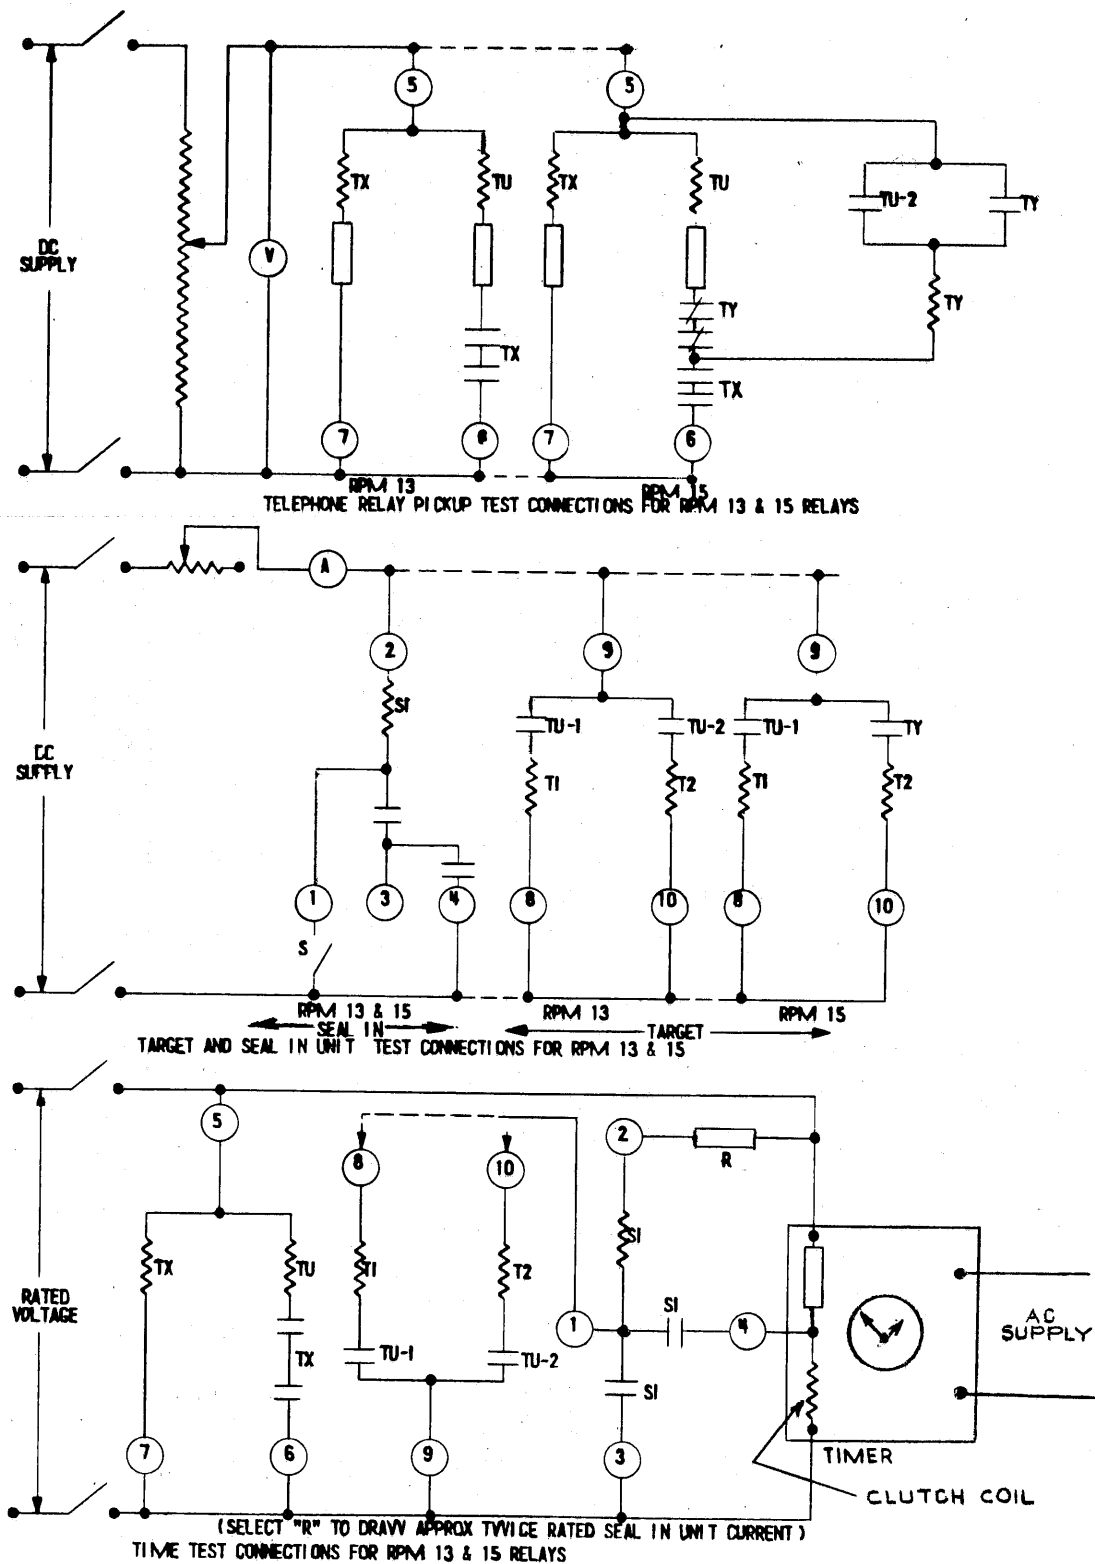

Fig. 7 (0148A3989 -3) Laboratory Test Connection Diagrams For The RPM Relays Covered By This Book
Using connections shown in Fig. 7 the telephone type relays should pick up at 80% or less of rated voltage. When testing the RPM15 relays the normally closed contacts of the TY relay should be blocked open and the TU-2 (rear) contact should be closed manually. This is to prevent the operation of solenoid TU so that the regulation of the test circuit will be adequate to permit reliable test results.
Using connections shown in Fig. 7 check the targets and the seal-in unit pickup to confirm that they will operate on rated current or less. While making these tests the operating cams can be manually held in the proper position to keep the desired contact closed. When seal-in unit (SI) is picked up the opening of switch "S" should not de-energize this unit.